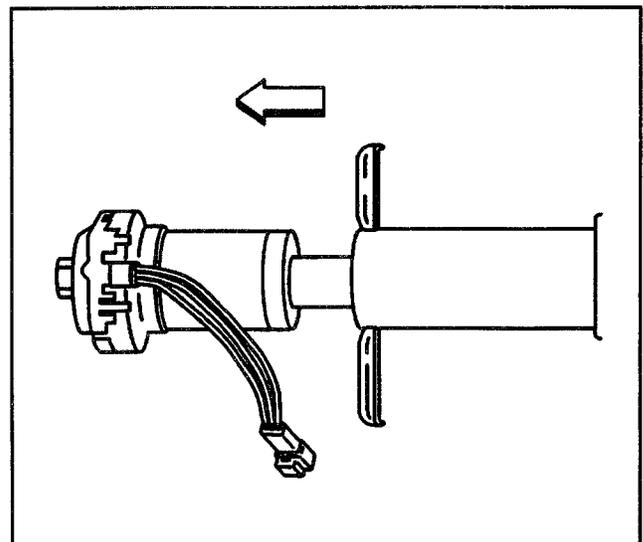

Figure 5—Position Sensor Removal
5. Position sensor and bearing assembly from steering column jacket by pulling straight out (Figure 5). Use care not to apply force to sensor and bearing in a sideways direction.